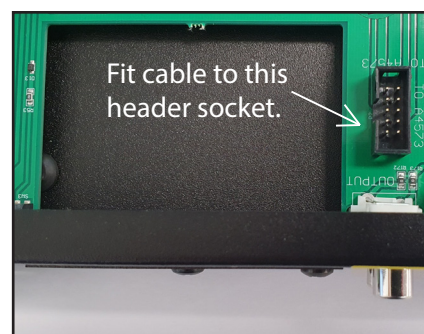

Fig 3
- 4) Slip the A 4573 through the hole and plug the cable into the header socket as show in figure 3.